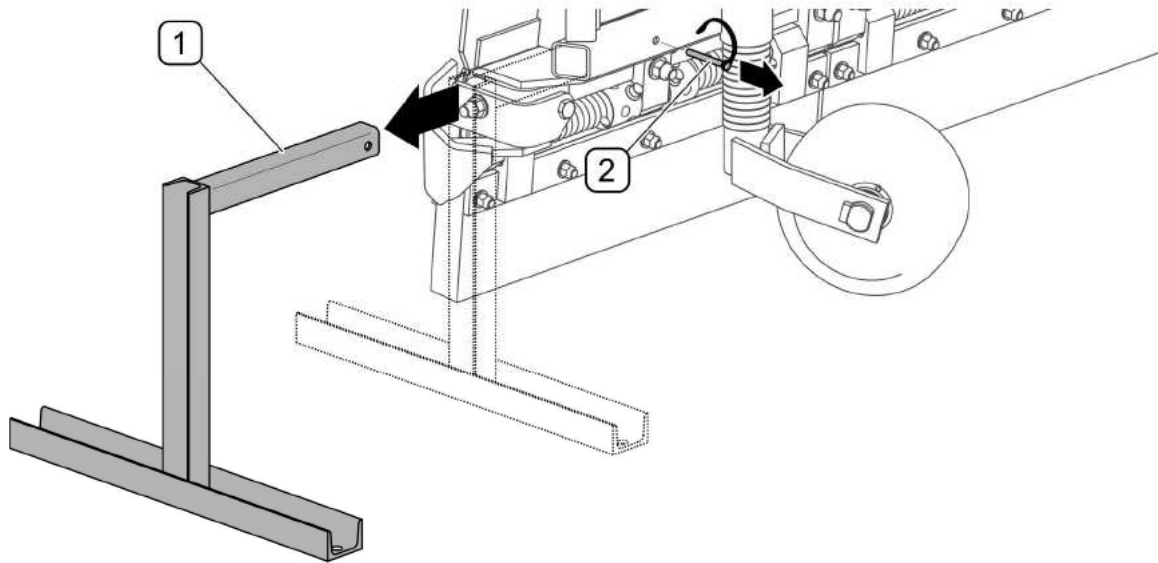
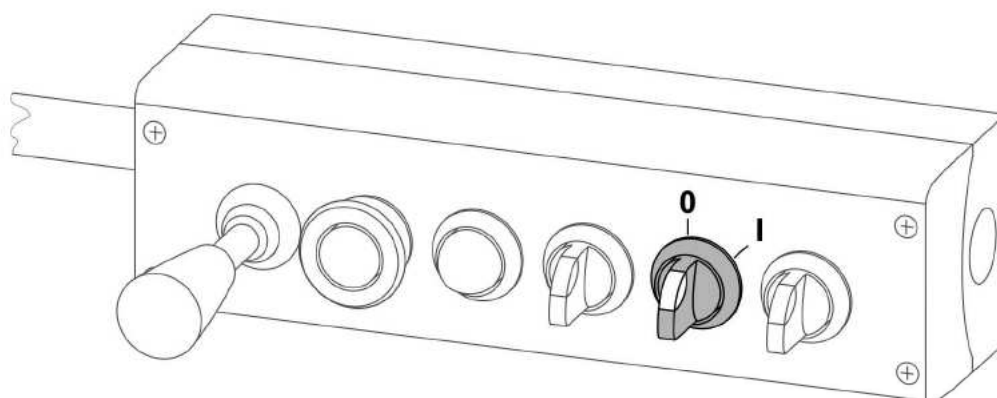

FIG. 4.5 Dismantling parking stands
FIG. 4.10 Linking function switch
- 2) Using the control panel, set the plough linkage in such a manner as to position the mounting hooks above the seats of the carrying vehicle head plate. Set "linking" switch (FIG. 4.10) on the control panel to (I) "ON" position.
- 4) If the mounting hooks and the carrying vehicle head plate are correctly aligned, switch off "linking" switch (FIG. 4.10) and lower the linkage until the plough mounting hooks are set in the seats of the carrying vehicle head plate. Lift the plough and check if correctly mounted. Secure the plough linkage frame with two bolts (FIG. 4.4). Dismantle both parking stands (FIG. 4.5). Place the control panel in the operator cab in an easily accessible place.
The plough is equipped with two parking stands (FIG. 4.5). To dismantle the parking stands:
- 3) Set "linking" switch (FIG. 4.10) on the control panel to (I) "ON" position. Using the control panel, set the plough linkage in such a manner as to position the mounting hooks above the seats of the carrying vehicle head plate.